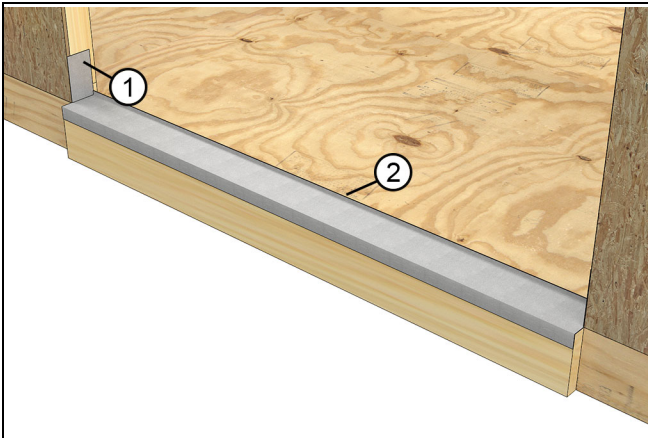
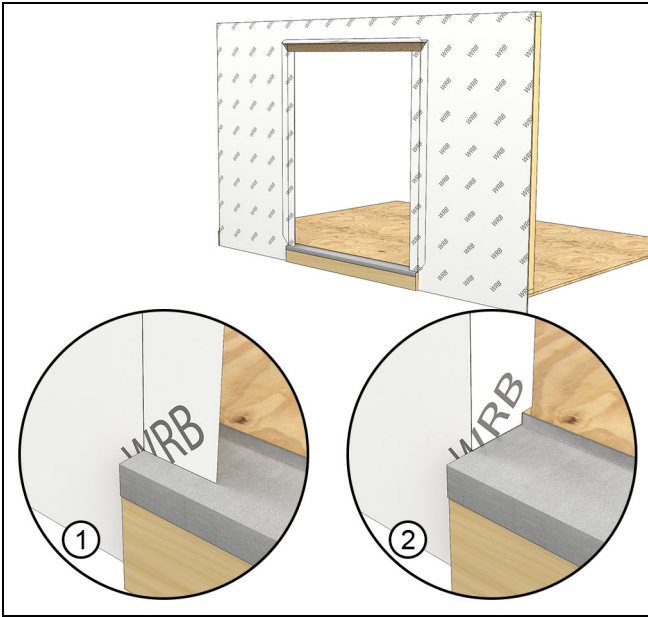

Figure 4
Figure 5
1. Before you begin the installation process make sure you have prepared your opening properly in weather-board fashion. The panning should extend up the sides of the rough opening at least 6" (152) and have an upturned leg on the interior of at least 1/2" (13) in height. Wrap the weather resistive barrier around to the interior and seal any seams. See Figure 4 and Figure 5.